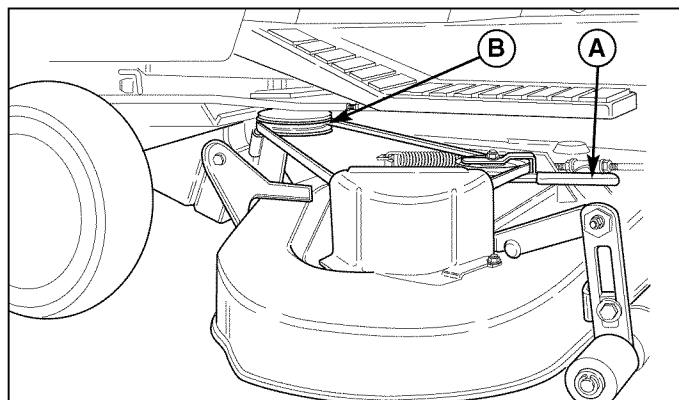

Figure 10. Removing & Installing Belt
5. Remove belt from PTO pulley (B, Figure 10).
5. See Figure 10. Move idler arm (A) to relieve belt tension. Install belt onto the PTO pulley (B).